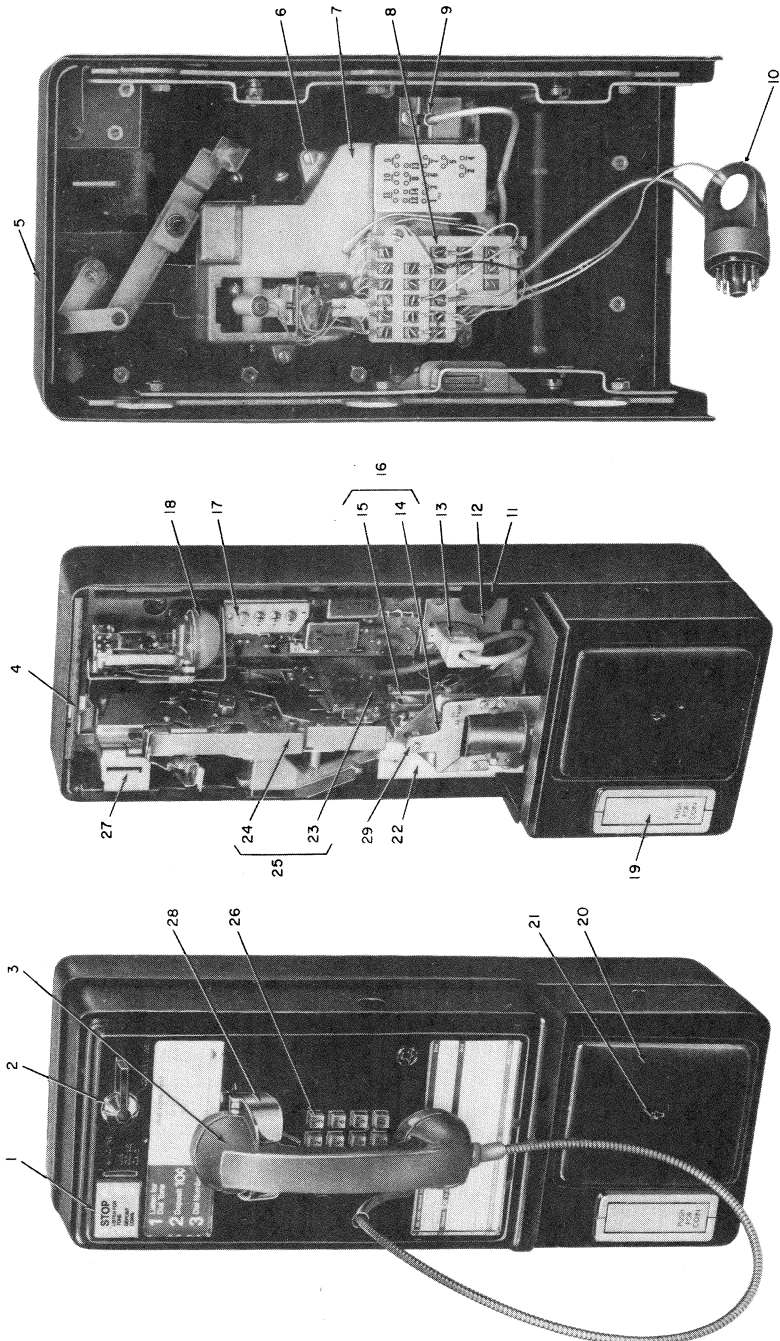

Fig. 1 — 1D-Type Coin Telephone Set
**1.01** This section contains information on the 1D/2D-type coin telephone sets (Fig. 1, 2, and 3) and the D-180707 Kit of Parts (Fig. 4).
- The D-180707 Kit of Parts contains a 47A (MD) or 47A2 signal and a 32A chassis
- 23 – 47A (MD) or 47A2 Signal
- 25 – 20A47A (MD) or 20A47A2 Chute
- 29 – 811057835 Cover (not shown in Fig. 1)
**2.02 *Components:*** See Table B and Fig. 1 and 2.